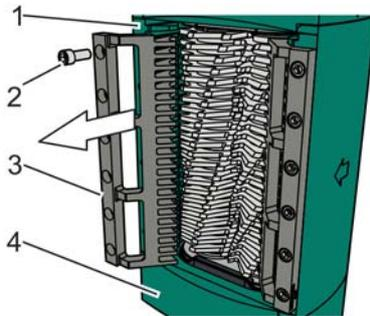

Fig. 67: Releasing the cleaning comb, example
Unscrew the attachment bolts (Fig. 67/2) on the outlet side (Fig. 67/4) of the machine and place to the side.
3. ➤ Carefully remove the cleaning comb (Fig. 67/3) in the direction of the arrow (Fig. 67/arrow) from the side wall (Fig. 67/1) and place to the side.
4. ➤ Clean contamination from cleaning comb (Fig. 67/3) and check for burrs. Remove burrs using suitable tools, if necessary.
5. ➤ Carefully insert the cleaning comb (Fig. 67/3), aligned with the boreholes in the side wall (Fig. 67/1) of the machine, in the proper position between the grooves of the cutter blocks and tighten by hand with the attachment bolts (Fig. 67/2).
7. ➤ Tighten the attachment bolts (Fig. 67/2) of the cleaning comb (Fig. 67/3) one by one with the prescribed torque (⚡ Appendix "Screw tightening torques" on page 131).